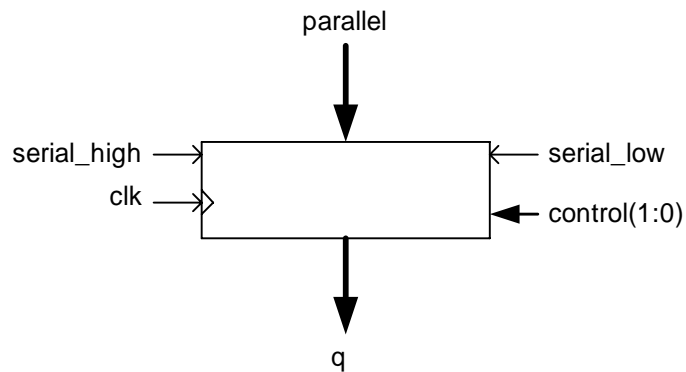

Figure 2 Bi-directional shift register (symbol)
2.2 Generate the VHDL model of a bi-directional n -bit shift register (figure 2). Its working is defined by the value of a 2-bit *control* signal: